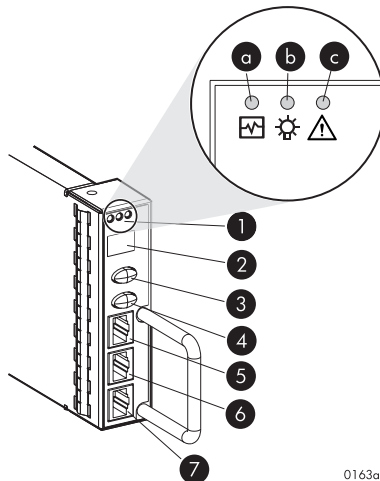

Figure 19 EMU controls and displays
Figure 19 illustrates the location and function of the EMU displays, controls, and connectors.
The EMU status indicators are located above the alphanumeric display. See Figure 19. These indicators present the same information as those on the front, lower right corner of the enclosure.
The two-character alphanumeric display is located at the top of the EMU (see Figure 19). This seven-segment display provides information about multiple enclosure functions. The push buttons control the data displayed or entered.
- The top push button moves between the levels within a display group (see 2, Figure 19).